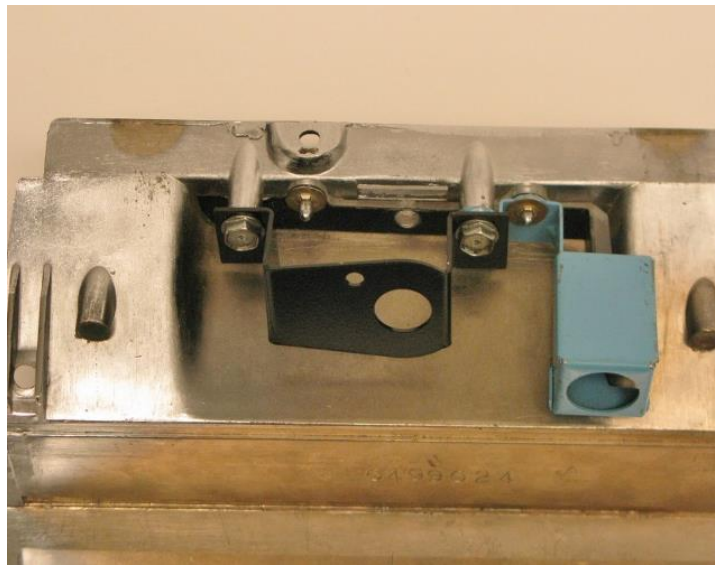

Figure 10 – Install Wiper Switch Adapter
15. With the center dash bezel out of the vehicle, install the wiper switch adapter using the 2 screws from the previous step that held the stock wiper switch in place (Figure 10). **NOTE:** Make sure the anti-rotation hole is above the switch hole in the adapter.